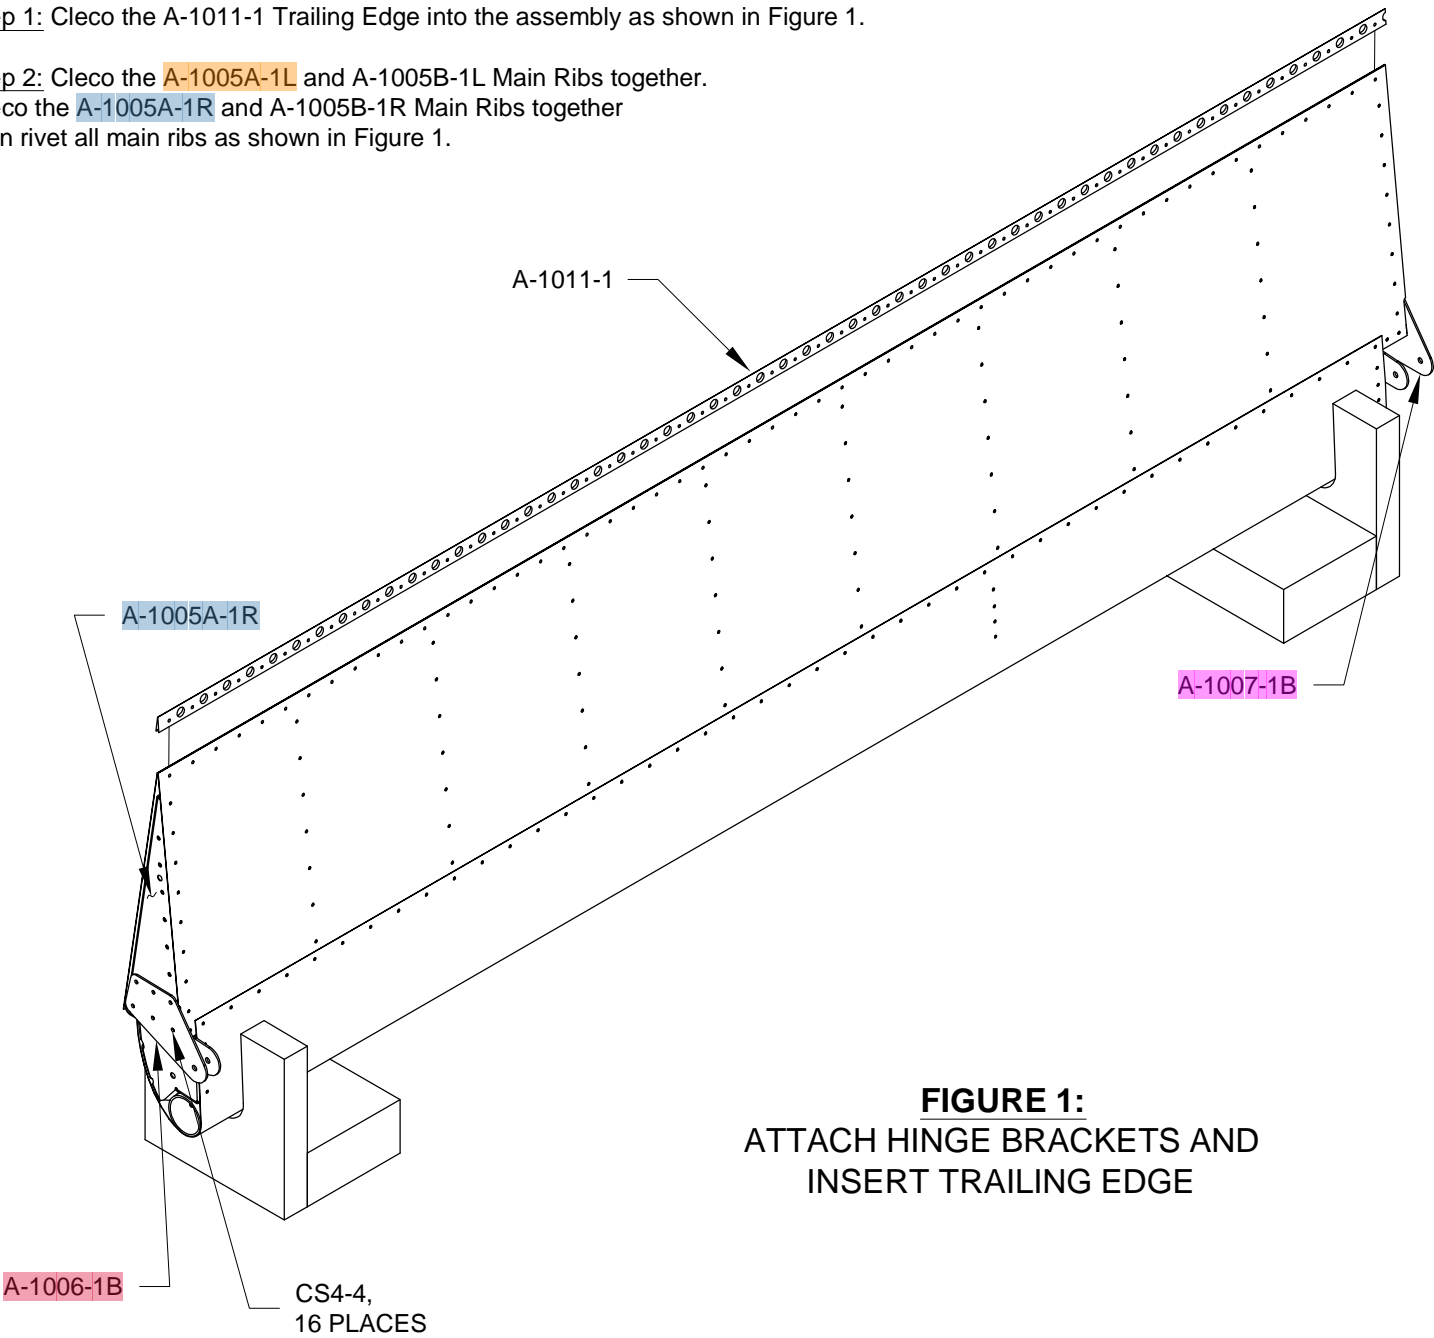

FIGURE 1:
Step 1: Cleco the A-1011-1 Trailing Edge into the assembly as shown in Figure 1.
then rivet all main ribs as shown in Figure 1.